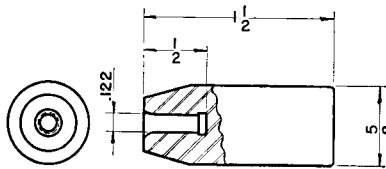

Fig. 10. Stop and support
**Adjust Turret Stock Stop.** The stop used in this job has two functions. It serves as a supporting bushing on the end of the work piece and it acts as a stop when feeding stock. Notice that although stock is fed at position 49, the stop is not indexed out of the way until position 96. The stop is shown in Fig. 10.